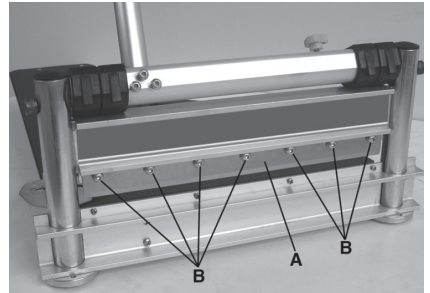

FIGURE 10
1. To remove the blade (Fig. 10-A), remove the seven allen head screws (Fig. 10-B) using the supplied hex. key. Carefully remove the blade.